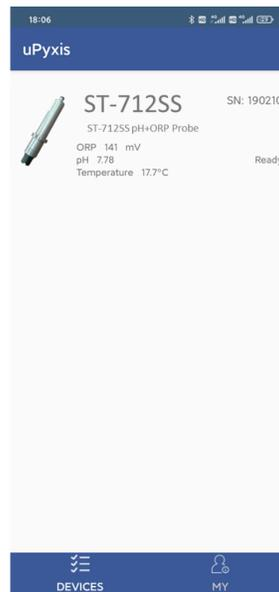

Figure 5.
3. If the connection is successful, the ST-712SS and its Serial Number (SN) will be displayed (Figure 5).